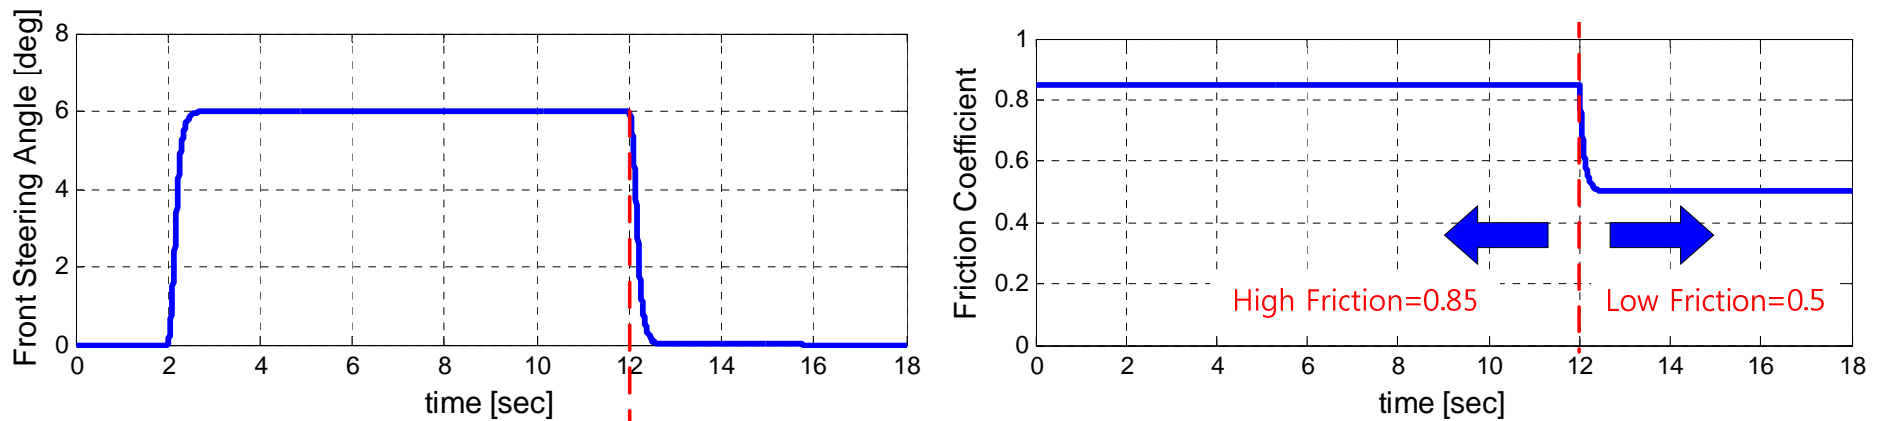

Fig.1 Front steering maneuver and tire/road friction
- Front steering maneuver by a human driver and tire/road friction is shown in Fig.1.